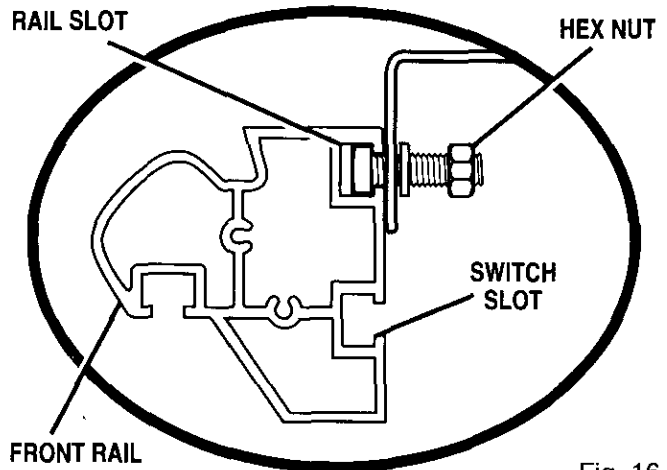

Fig. 16
- The back of the rail has two slots. See Figure 16. Slide the upper slot over the bolts. (Bottom slot is for switch.)
- The back of the front rail has two slots. See Figure 16. Slide the bolt heads into the upper slot of front rail. (Bottom slot is for switch.)